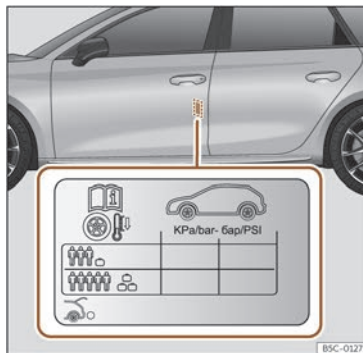

Fig. 226 Location of the tyre pressure sticker.
- Adjust tyre pressure to the load being carried by the vehicle >>> **Fig. 226**.
The values of the tyre pressure are shown on the sticker label located on the rear frame of the front left door >>> **Fig. 226.**
The tyre pressure must be adjusted according to the load the vehicle is carrying. If the vehicle is going to be fully loaded, increase the tyre pressure to the maximum load value shown on the sticker label >>> **Fig. 226.**
In the case of a minimised temporary spare wheel (125/70 R16 or 125/70 R18) inflate to a pressure of 4.2 bar as indicated on the tyre pressure label >>> **Fig. 226.**
- The driver is responsible for ensuring that all of the vehicle tyres are correctly inflated to the right pressure. The recommended tyre pressure is indicated on the label >>> **Fig. 226.**
- Tyre pressure should be that indicated on the label when the tyres are cold at all times >>> **Fig. 226.**